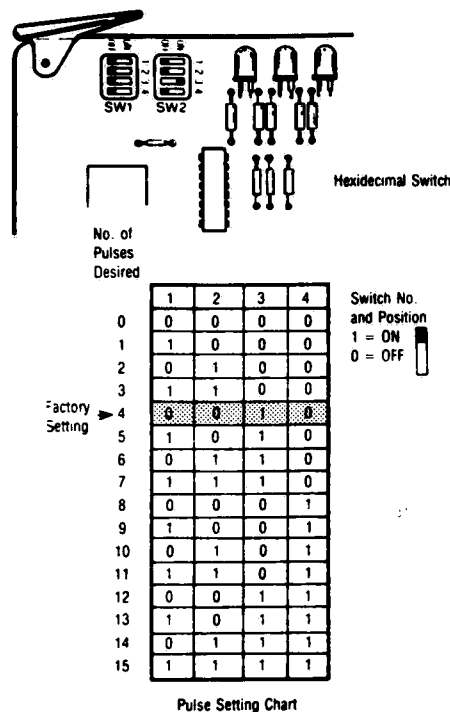

Figure 7-18. SETTING PULSE SWITCH.
a. Locate the pulse-setting hexadecimal switch on the Vacamatic printed circuit expander board (Fig. 8-15, 15). Refer to Figure 7-18 for location of the switch.